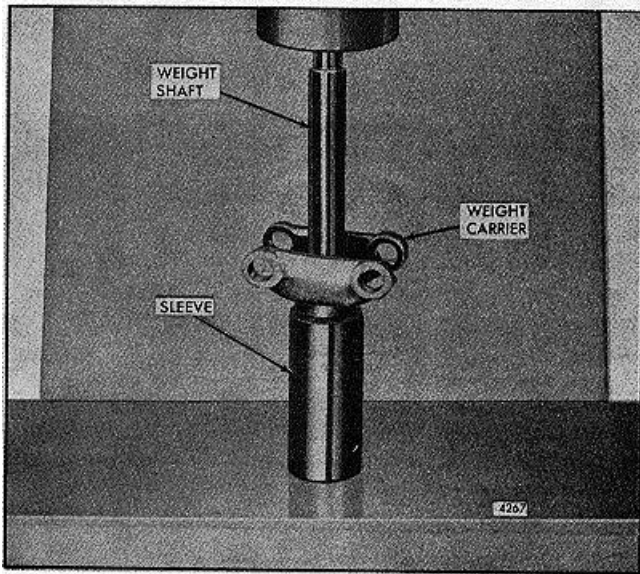

FIG. 13 Removing Governor Weight Shaft from Weight Carrier
- d. If removal of the weight carrier from the weight shaft is necessary, support the shaft, weight carrier and sleeve on the bed of an arbor press as shown in Fig. 13 and press the shaft out of the weight carrier.